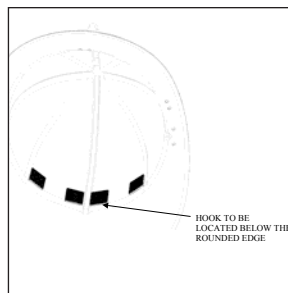

Figure 2
7. Place the 4 pieces of 1" x 1" hook fasteners on the shell as shown in Figure 2.